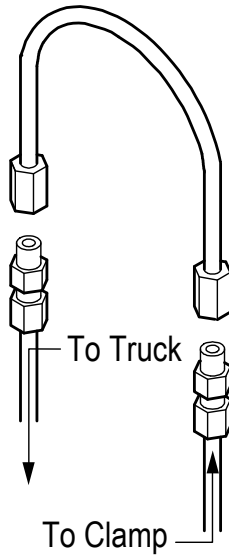

Figure 4-7, Jumper line setup
2. Purge the system by installing a jumper line and operating each hydraulic function (clamp, rotate and side shift, if equipped) in each direction for a minimum of 30 seconds. (Figure 4-7)